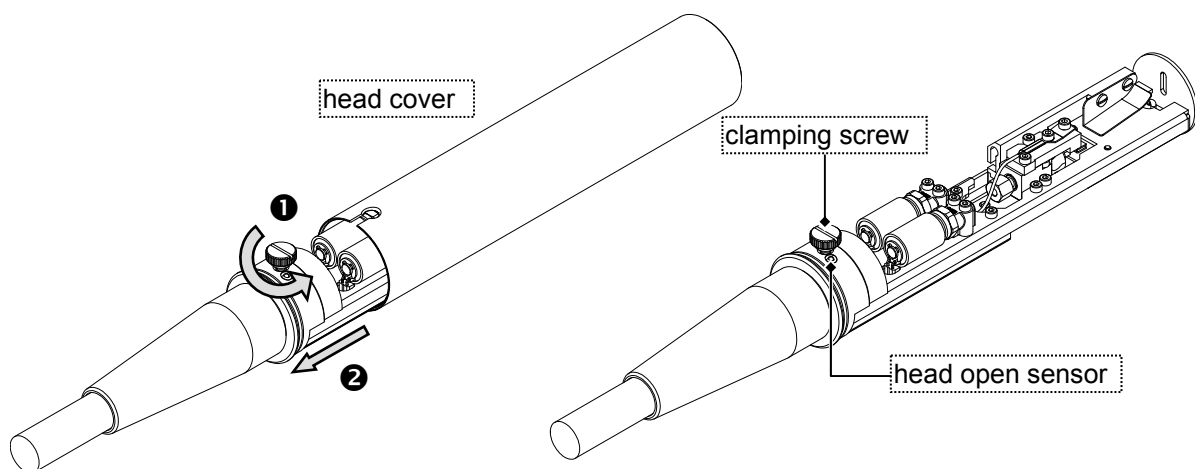

Fig. 6.1.3.1
1. Screw out clamping screw ❶ from the head cover – the screw cannot be screwed out completely, it can only be loosened to its limit.
2. Pull out the print head from its cover carefully ❷ in the direction shown in **Fig. 6.1.3.1**.
- The print head is equipped with a sensor for detecting any removal of the cover (see **Fig. 6.1.3.1**). When the cover is removed, printing is suspended automatically and the printer moves to the **cover** mode (see section **4.11 Print Head Status**). Printing cannot be restarted until the cover is re-installed.